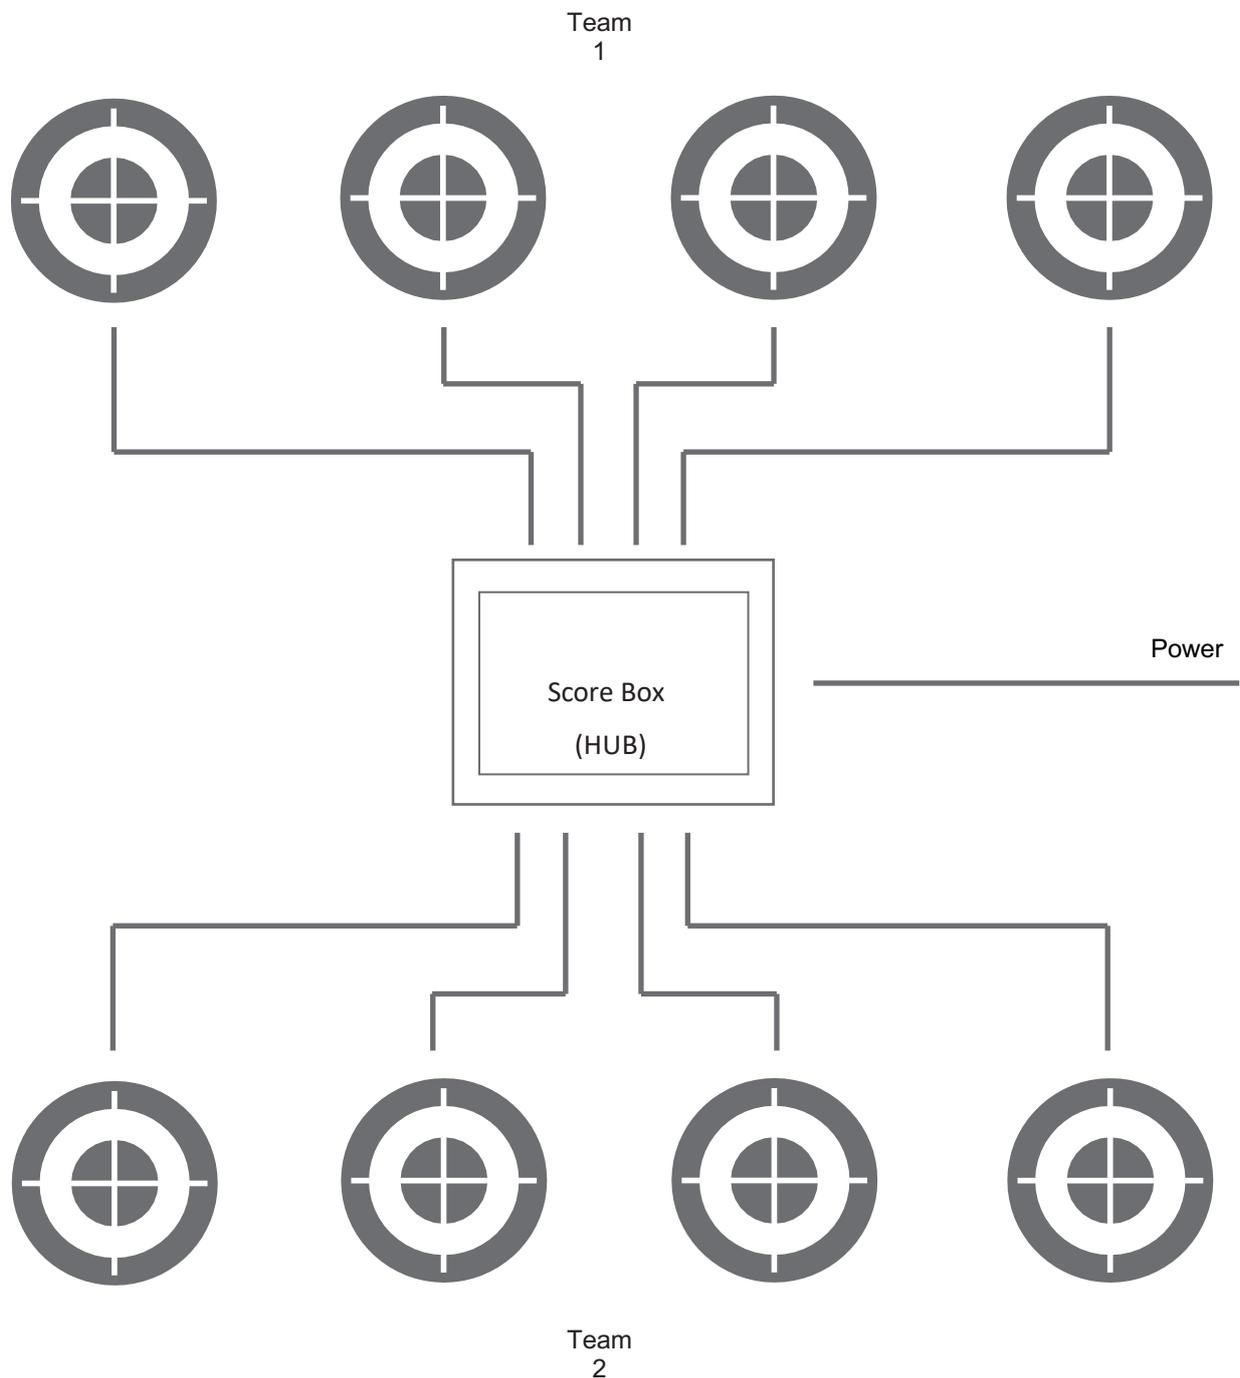

Figure 3.4.1: Typical Ballistics Cable Connections
- Cables come out the back of each unit. Cables need to be installed as shown in **Figure 3.4.1**